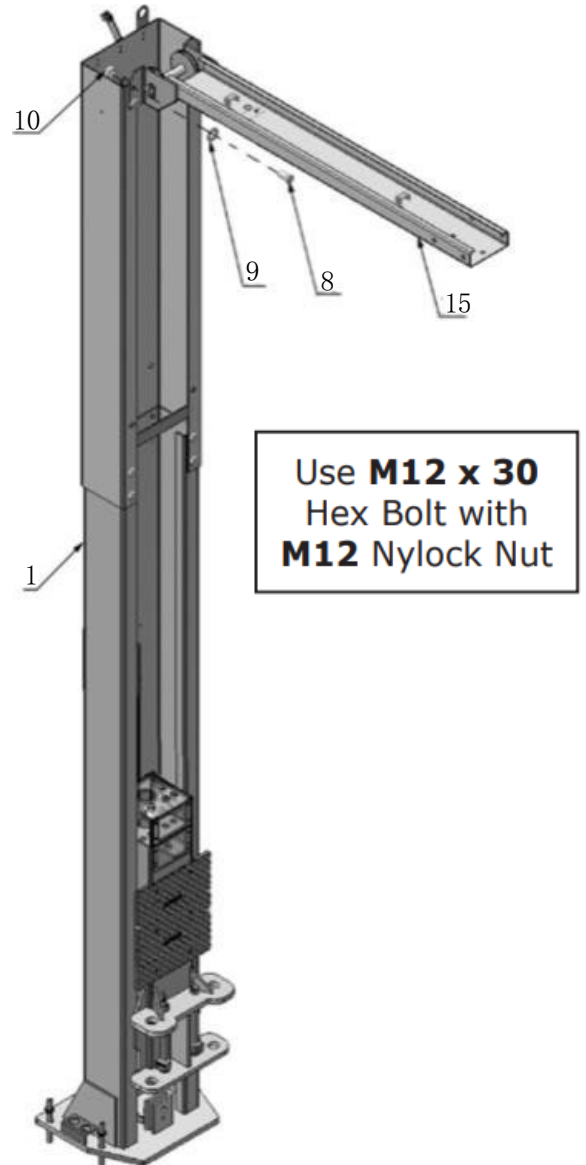

Fig. 21
1. With help of the hook of top beam, put one side of top beam on top of the extension column and connecting the top beam to extension column by bolts, tighten the bolts. (See Fig. 21).